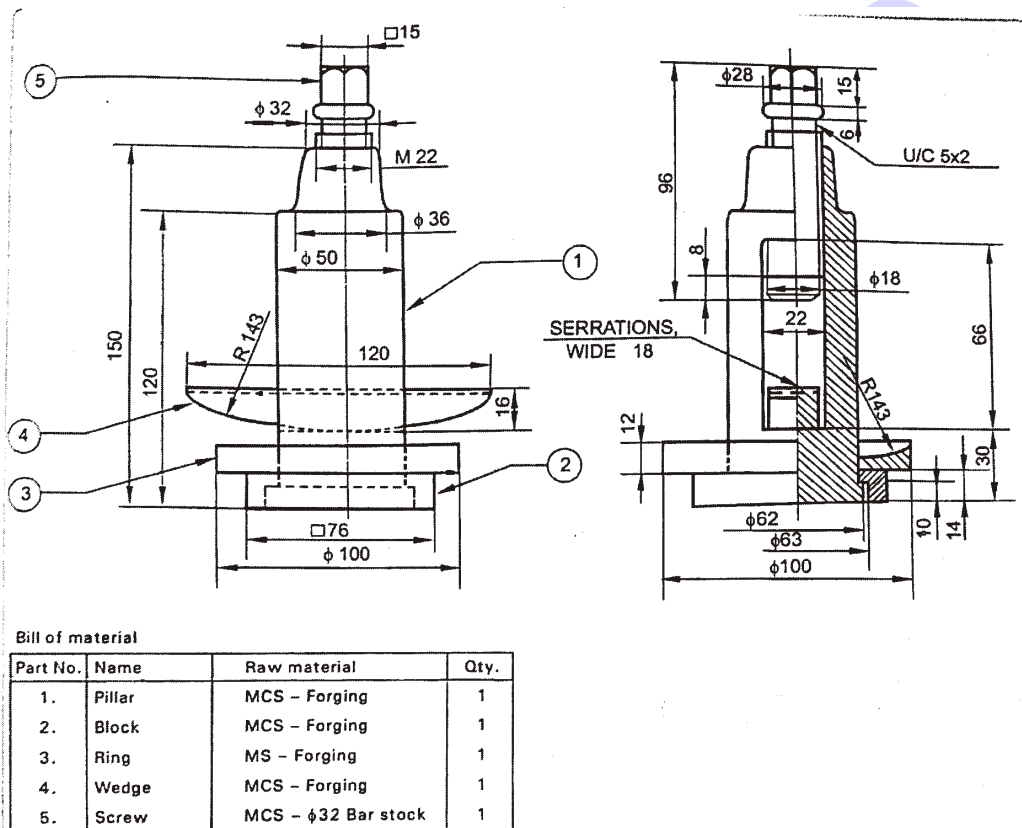

Fig. 1
(2) Each question carries **forty** marks.
* **5.** Study the given assembly drawing of the tool post shown in Fig. 1 :